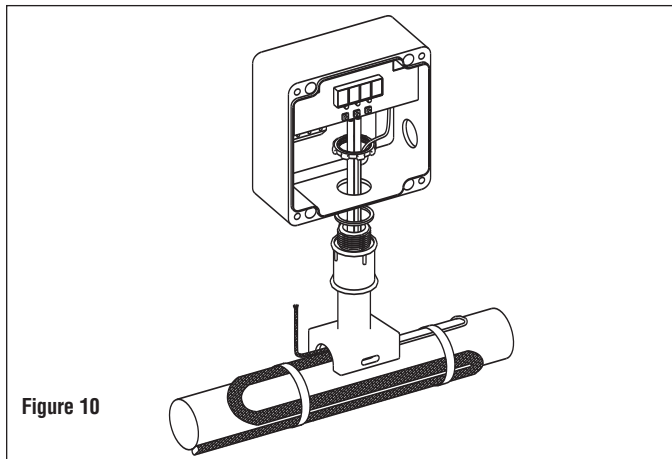

Figure 10
**Be sure to install this device vertically as pictured in Fig. 10. This controller utilizes a heat sink which is designed to cool the unit during operation. Under no circumstance should air flow around the controller be compromised in any way. Failure to do so may result in the overheating of the controller, product failure, product temperatures which exceed the Hazardous Area maximum temperature limit and even fire.**